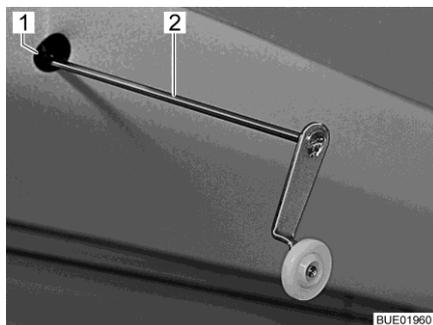

Fig. 136 Crank for emergency operation
- Insert the crank (Fig. 136,2) provided or an Allen wrench into the accommodation (Fig. 136,1) on the motor. The holder is in the cut-out in the surround at the top left of the pull-down bed.